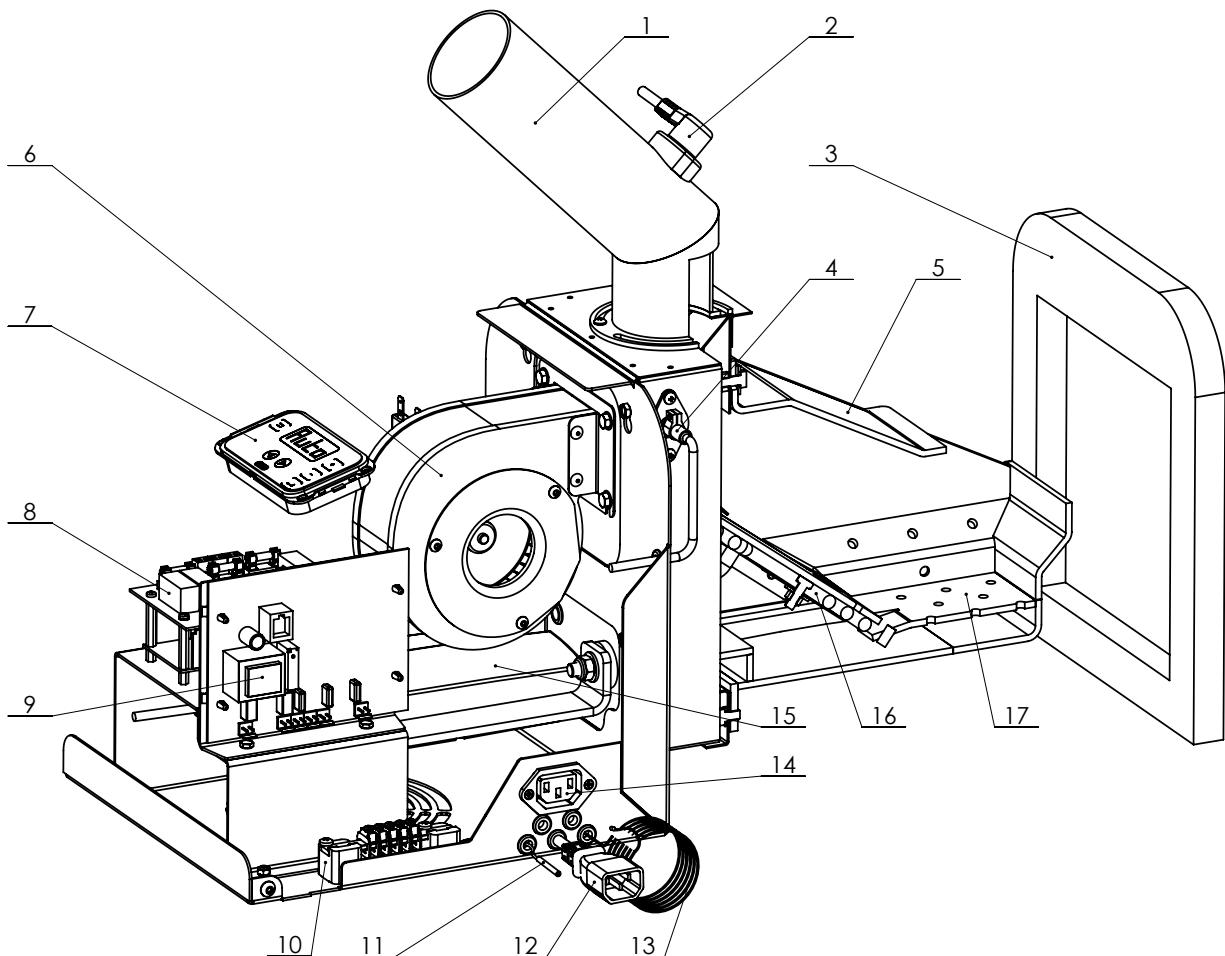
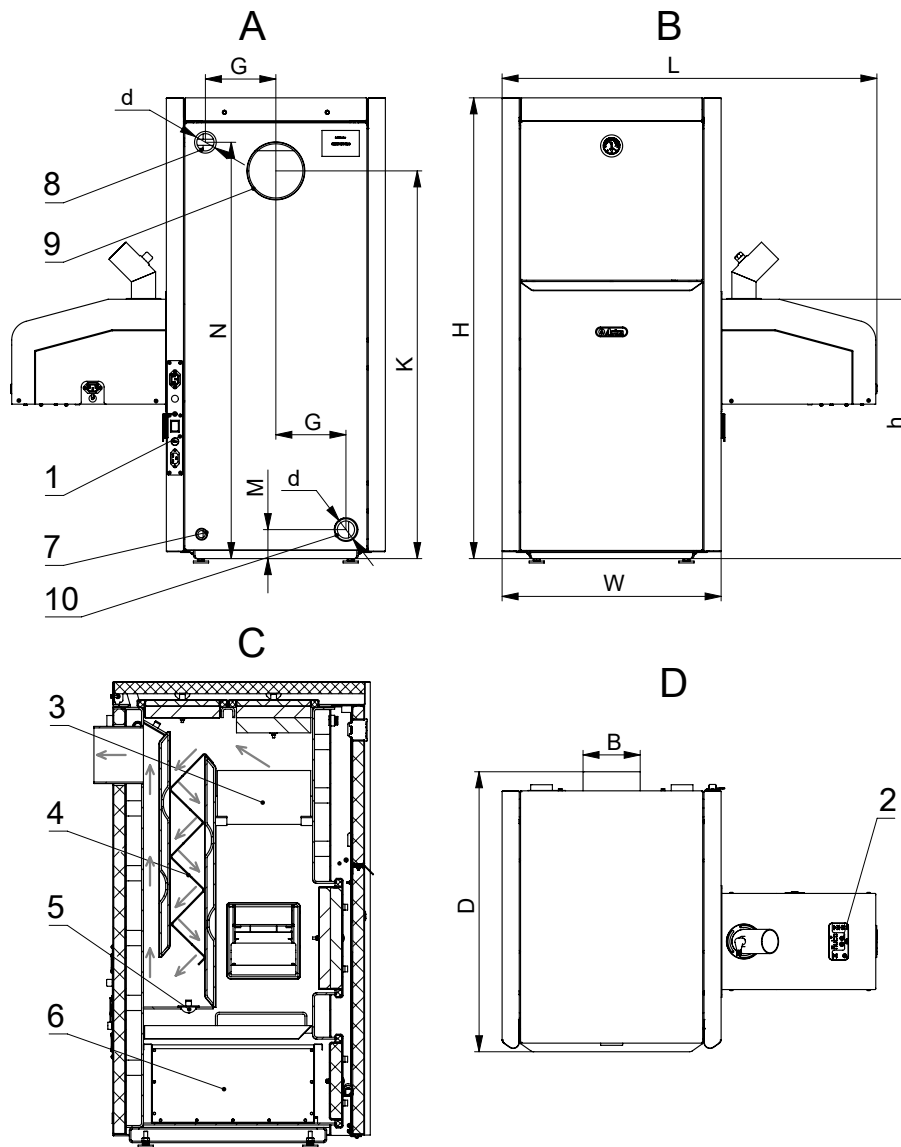

Fig. 2. Burner components
Fig. 3. Overall boiler view
Granules flow in the fuel loading branch pipe (Fig. 2 pos. 1) directly into the combustion chamber (Fig. 2 pos. 17). During
the ignition phase wood pellets are automatically lit with the heating element (Fig. 2 pos. 16). The air supply fan (Fig. 2 pos. 6) supplies adequate amount of combustion air. The flame shape and direction are formed by the deflector (Fig. 2 pos. 5). The actuator (Fig. 2 pos. 15) is designed for automated mechanical cleaning of the combustion chamber, pushing the chamber drawer forward/backward during each claim extinction. The flame sensor (resistive photo sensor) (Fig. 2 pos. 4) monitors the flame and determines whether the combustion takes place in the combustion chamber. The bimetallic thermostat (Fig. 2 pos. 2), when the fuel supply branch pipe heats to dangerous temperature (95 °C), automatically stops the loading auger. The K-Type thermocouple (Fig. 2 pos. 11) measures the temperature of smoke exiting the boiler (additional option) and the NTC sensor (Fig. 2 pos. 13) measures the boiler outlet water temperature. The controller (Fig. 2 pos. 9) automatically adjusts all processes and phases required for pellet burning. The relay block (Fig. 2 pos. 8) acts as the actuator power source, and has integrated various other relays and fuses for control and operation of other burner elements. All electric elements fitted in the burner are grounded through the grounding block (Fig. 2 pos. 10). The user can track and control the combustion process by using the control panel (Fig. 2 pos. 7). Power cable (Fig. 2 pos. 12) transmits electricity to the burner and must be connected to the boiler outlet (Fig. 3 pos. 1). Interim purpose of the burner (Fig. 2 pos. 3) is to seal the connection between the burner and the boiler.
Flame occurring in the burner rises and heats the fireclay panels (Fig. 3 pos. 3). Hot fireclay bricks improve the combustion of flammable products. Next, hot air flow moves along the channel down and is slowed down by a turbulent liner (Fig. 3 pos. 4). There, heat is intensely transferred through the walls to the fluid circulating inside the boiler. In the next channel the cooling air flow rises up the chimney of winning. Ash resulting during combustion and cleaning is delivered to the ashtray (Fig. 3 pos. 6). The ashtrays size determines the autonomous boiler operation time. The bigger the ashtray, the longer are the intervals between its cleaning. Cap (Fig. 3 pos. 5) is used to cover the hole for removal of deposits cleaned from the boiler walls. The supplied “hot” water pipe of the heating system (Fig. 3 pos. 8) is connected to the branch pipe. Return “cold” water pipe of the heating system (Fig. 3 pos. 10) is connected to the branch pipe. Boiler control elements are mounted on the rear control panel (Fig. 3 pos. 1).